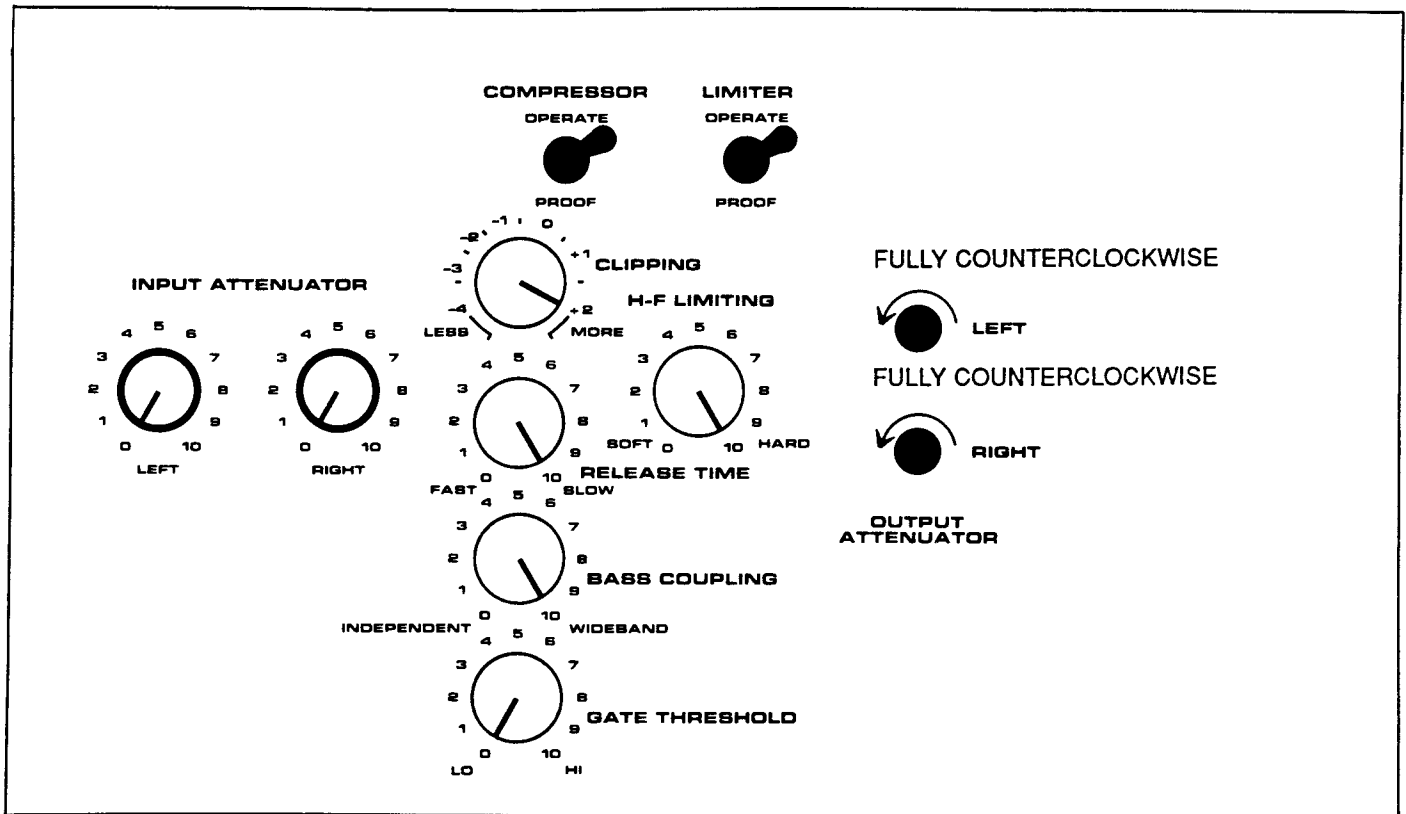

Fig. 2-5: Control Settings for Steps 12 and 13
- A  Set the 8101B's controls as shown in Fig. 2-5.
- A  Set the 8101B controls as shown in Fig. 2-5.